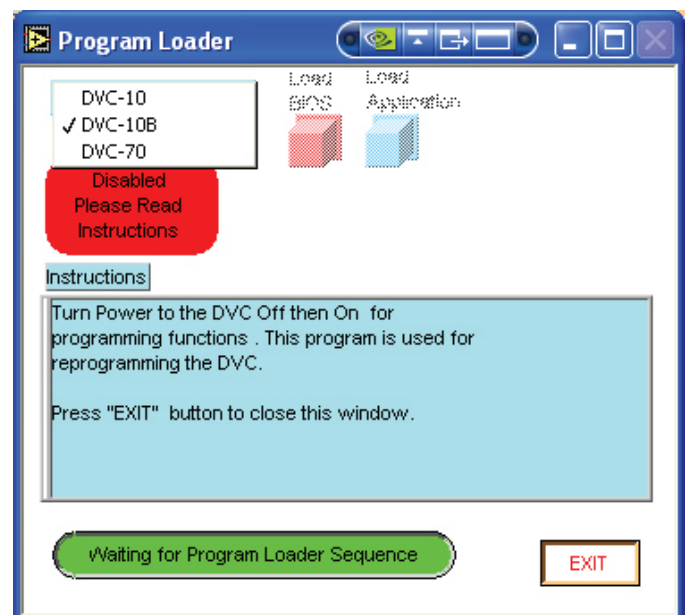

Figure 3-31
5. Within the Program Loader screen, select the module to be programmed from the pull down menu in the upper left hand corner of the screen. Reference Figure 3-31 below. If the Serial Label on the back of the module does not have a box with "REV B" written between the model number and the serial number, select DVC-10 on the pull down menu. If the Serial Label on the back of the module does have a box with "REV B" written between the model number and the serial number, select DVC-10B on the pull down menu.